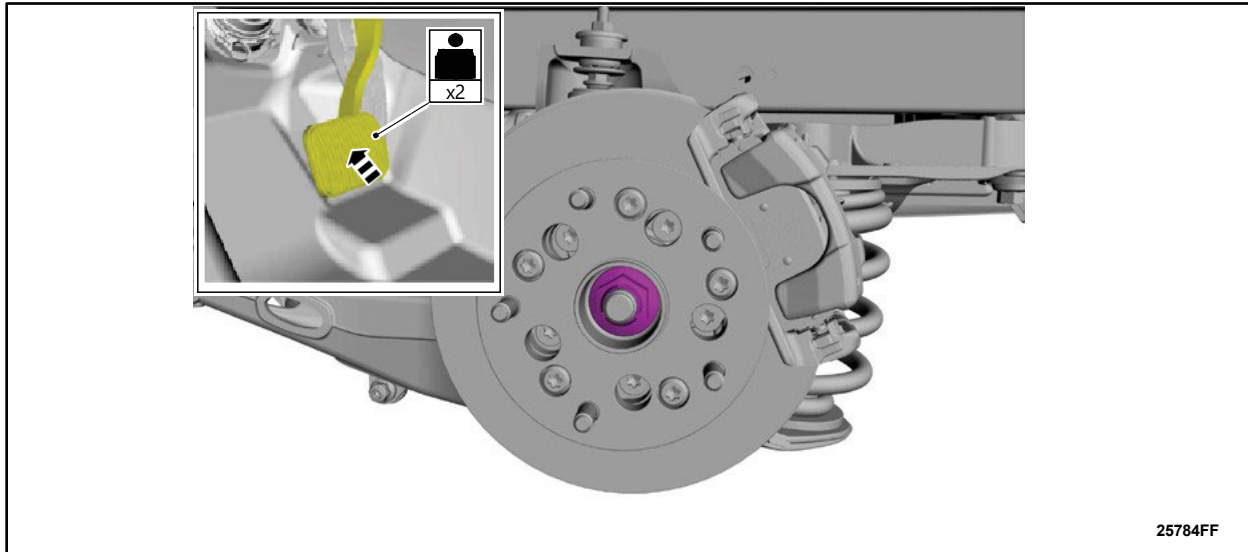

FIGURE 38
42. As needed, while an assistant applies the brake, tighten the wheel hub nut. See Figure 38.